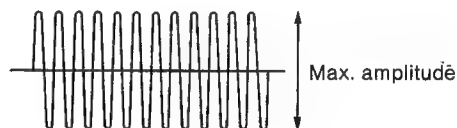

Figure 20.
4. Rotate the core of LR01 clockwise from the fully counterclockwise position to adjust LR01 for the maximum amplitude of waveform on the scope. (See figure 20.)